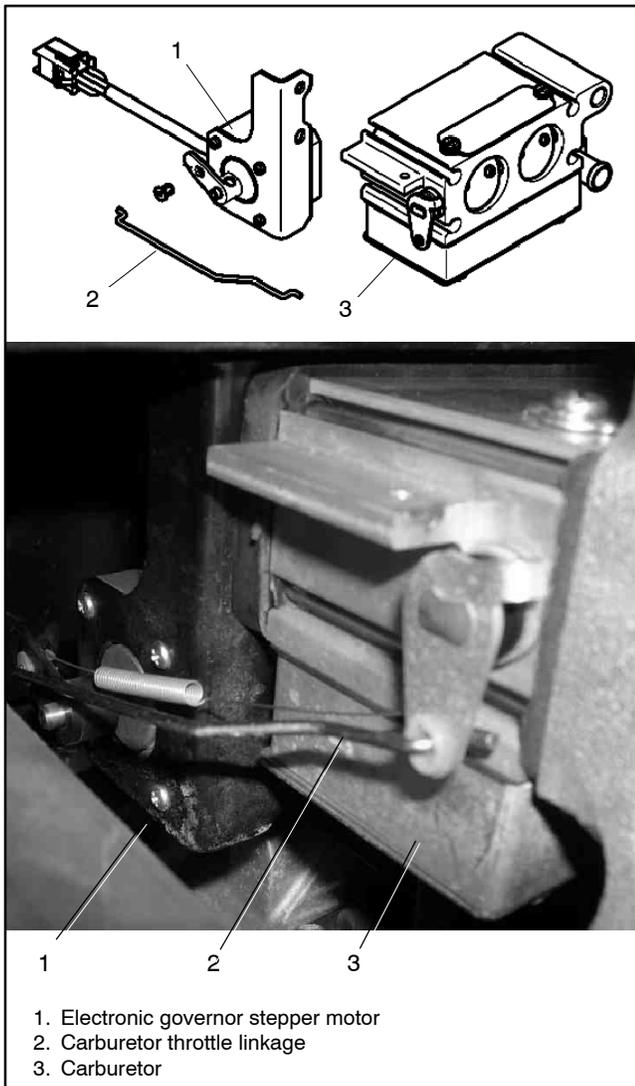

Figure 5-22 Stepper Motor and Carburetor
3. Hold the throttle linkage steady while the engine is running. See Figure 5-22. If the engine runs at a steady speed with no hunting or surging when the
1. Verify that the carburetor throttle linkage is connected to the stepper motor as shown in Figure 5-22.